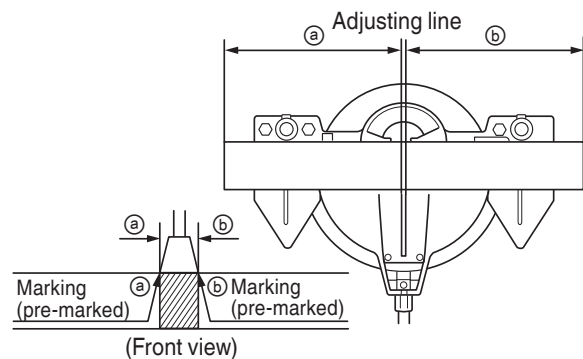

Fig. 15
- (1) As shown in Fig. 15 the width of the saw blade is the width of the cut. Therefore, slide the workpiece to the right (viewed from the operator's position) when length ㉑ is desired, or to the left when length ㉒ is desired.
- (2) Once the saw blade reaches maximum speed, push the handle down carefully until the saw blade approaches the workpiece.
- (3) Once the saw blade contacts the workpiece, push the handle down gradually to cut into the workpiece.
- (4) After cutting the workpiece to the desired depth, turn the power tool OFF and let the saw blade stop completely before raising the handle from the workpiece to return it to the full retract position.